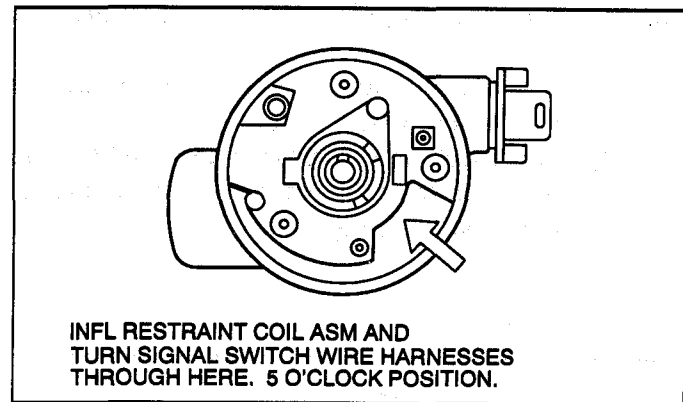

Figure 12 - Wire Harnesses through Column
8. Use an arbor press (see Figure 12). Press on threaded end of pinion until it is possible to remove stub shaft dust seal (18), stub shaft seal (20), and stub shaft bearing annulus assembly (21) (see Figure 13).